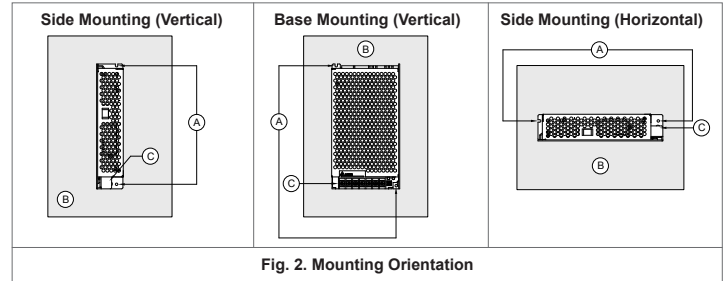

Fig. 2. Mounting Orientation
Refer to Fig. 2.:
- For safety reasons, please ensure the mounted device is kept at  $\geq 7\text{mm}$  safety distance at the top and left side from other components and equipments (Refer to Fig. 2).